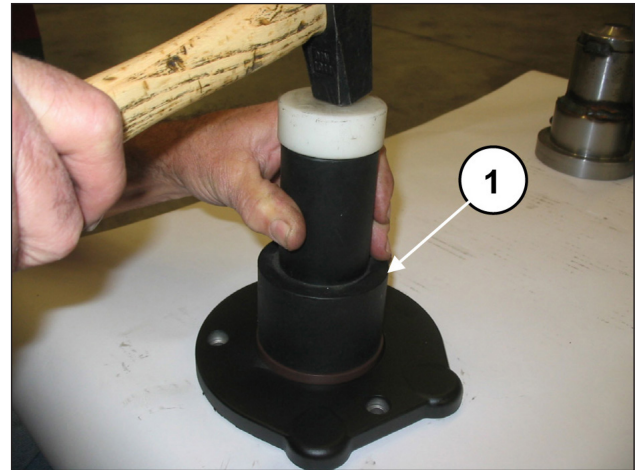
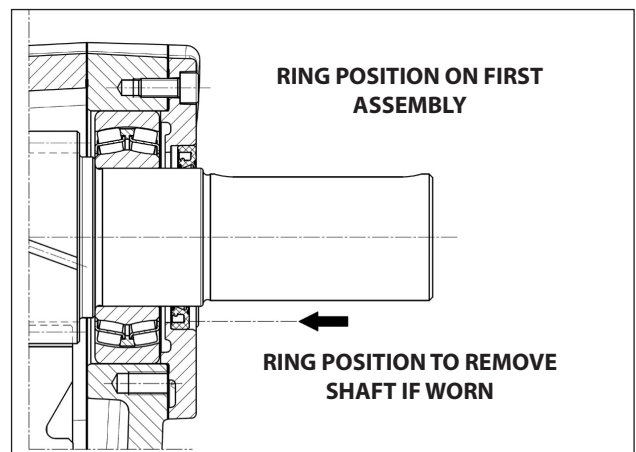

Fig. 70
Fig. 71
Insert the oil seal inside the reduction gear flange using the tools code 27515900 and 27548200 (pos. ①, Fig. 70). Before proceeding with seal ring assembly, check lip seal conditions. If replacement is necessary, position the new ring on the bottom of the groove as indicated in Fig. 71.
If the shaft should present a diameter wear corresponding to the lip seal, to prevent grinding, position the ring in the second stroke as indicated in Fig. 71.